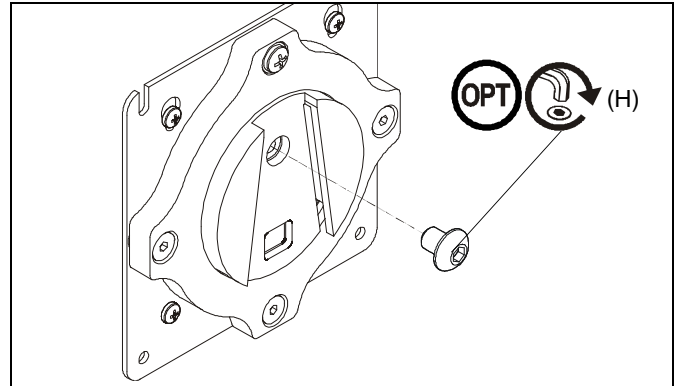

Figure 11
NOTE: (Optional) Rotational adjustment may be locked by installing rotational locking screw (H) into back of faceplate. (See Figure 11)